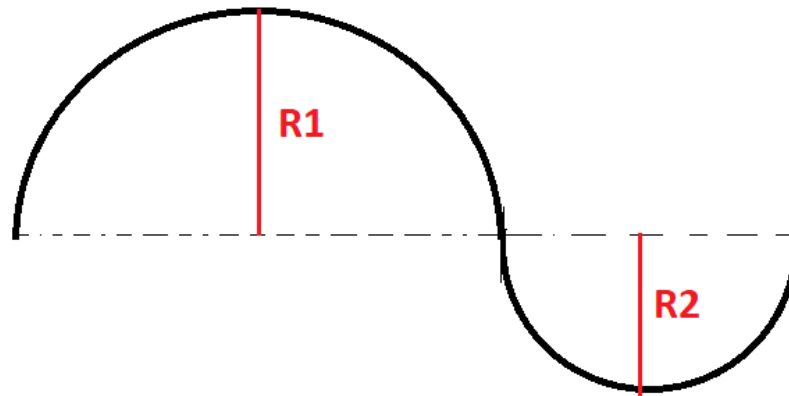

Figure 2. Path to be followed by the robot.
**Task 4** - Implement the program 'SShape.ino'. The program should make the robot move in two semicircles of radius "R1" and "R2" respectively, as shown in Figure 2. The robot should stay still until the "select" button is pressed. When "select" is pressed, the robot should perform the first semicircle in a clockwise movement. After completing the first semicircle, the robot should wait for the "select" button to be pressed again, and then perform the second semicircle in a counterclockwise manner. The whole movement must be completed in "Y" seconds moving at the same constant speed for both halves. The robot should stop based on encoder readings (distance traversed), and not based on a given time.
- Observe that, independently of the trajectory, the robot moves by fixing the speeds of the wheels for a given amount of time (as in the “S” shape shown in Figure 2). Taking this into consideration, can the robot move in any kind of trajectory? Consider an ellipse as an example.